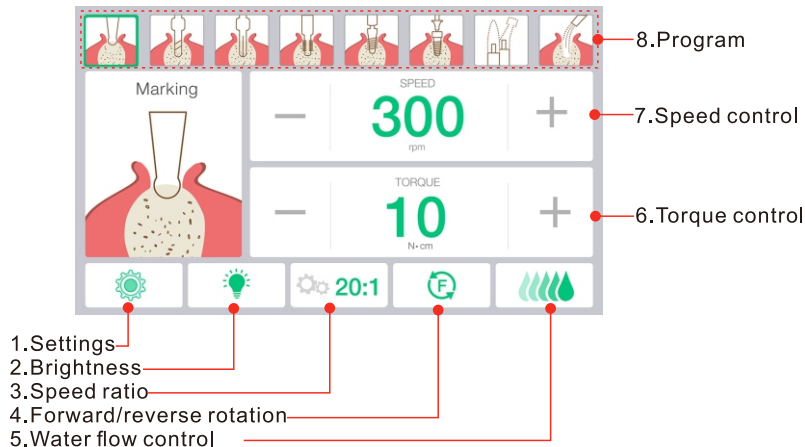

Fig. 9
5.1 The host interface(Fig. 9)